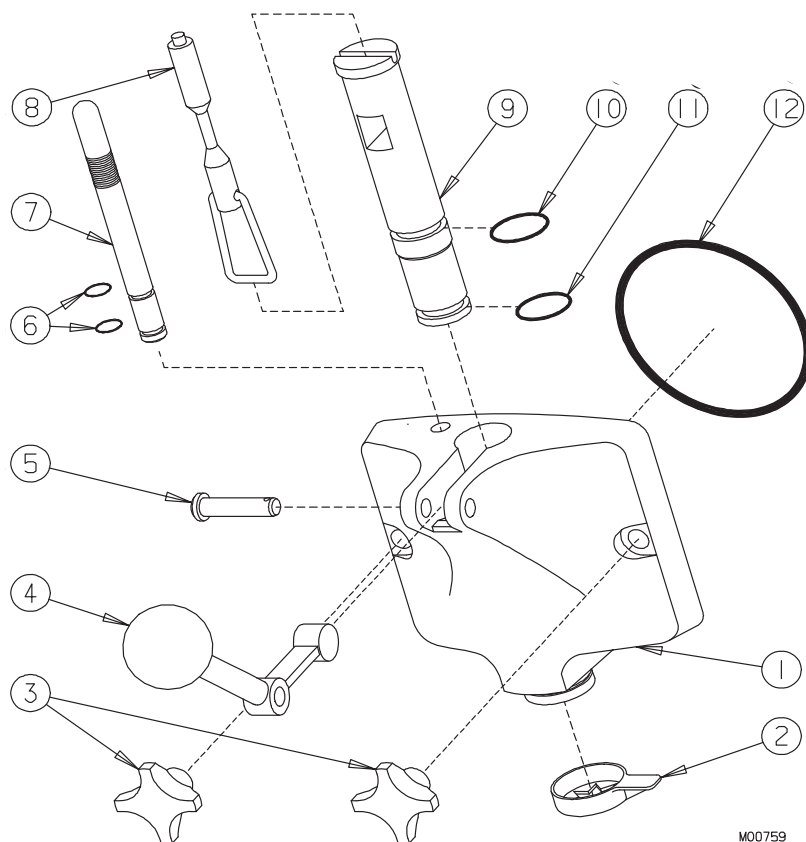

Figure 7-2 Head Assembly
2. Remove the plunger rod (8, figure 7-2)